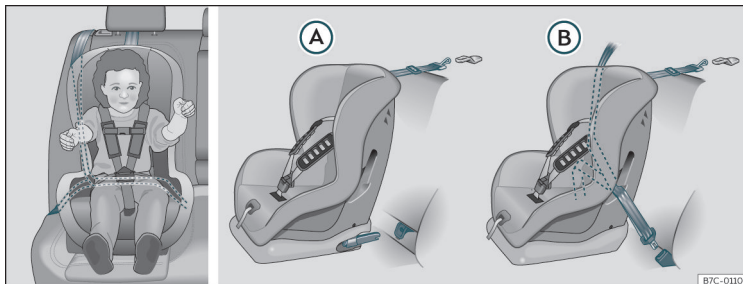

Fig. 31 On rear seats: possible assemblies of children seats.
Figure >>> **Fig. 31 (A)** shows the basic child restraint system mounting using lower retaining rings and the upper retaining strap. Figure >>> **Fig. 31 (B)** shows the child restraint system mounting using the vehicle seat belt.